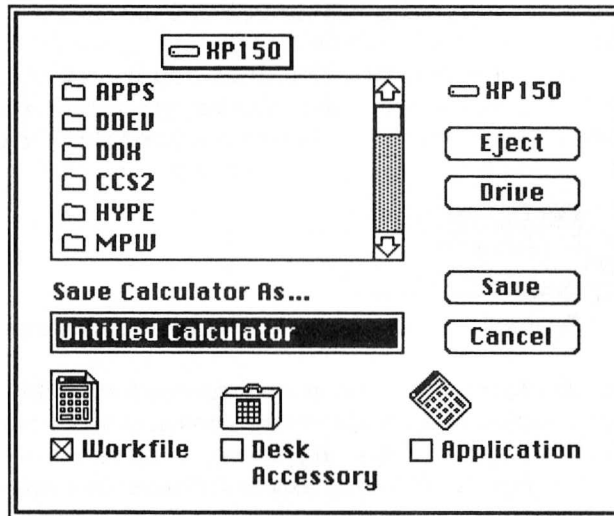

Figure 4-34 The CCS2 "Save File" dialog box.
- ❖ **Save As...** will save the calculator in the Work window to a file you create using the *SaveFile* dialog box (Figure 4-34).